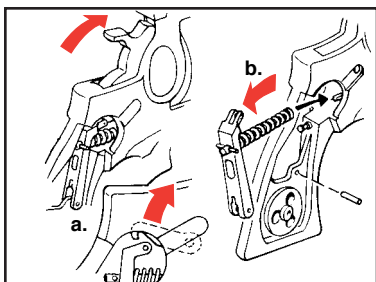

Figure 9
1. Unlatch the hook of the hammer link from the top end of the mainspring lever (See Figure 9 a., below).